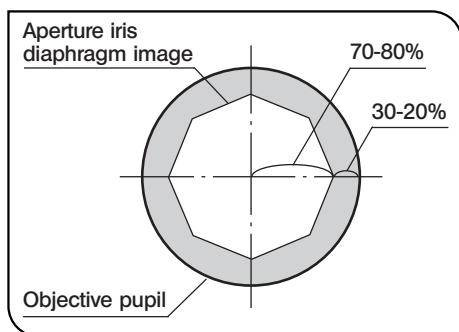

Fig. 31
Aperture Iris Diaphragm (Figs. 31 & 32)
- Since the contrast of microscope specimens is ordinarily low, setting the condenser aperture iris diaphragm to between 70% and 80% of the N.A. of the objective in use is usually recommended. If necessary, adjust the ratio by removing the eyepiece and looking into the eyepiece sleeve while adjusting the aperture iris diaphragm ring ① until the image shown in Fig. 31 is seen.